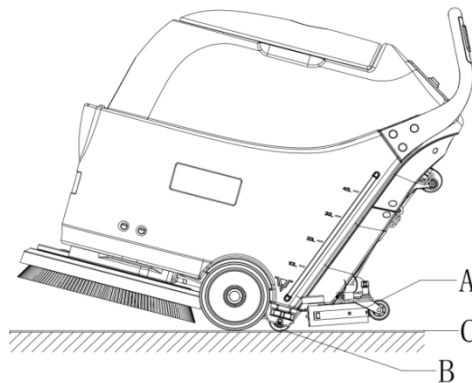

Figure 11
1. Release the safety switches (1), and then brush/pad-holder stop working.
2. Press the brush switch (46), vacuum switch (47) and power switch (45) to off position “0”.
4. Lifting the squeegee (A, Figure 11) from the ground by squeegee lever (14).
5. Hold the machine handlebar (2) and lean back machine until assist wheels (B, Figure 11) touch the ground.